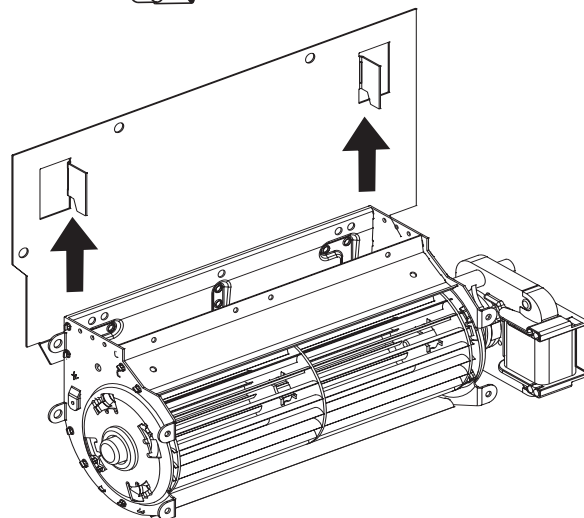

Figure 15
11. The blower plate is on the left side of the fireplace. Slide the blower up into the tabs, securing it into place with the velcro. **See Figure 15.**